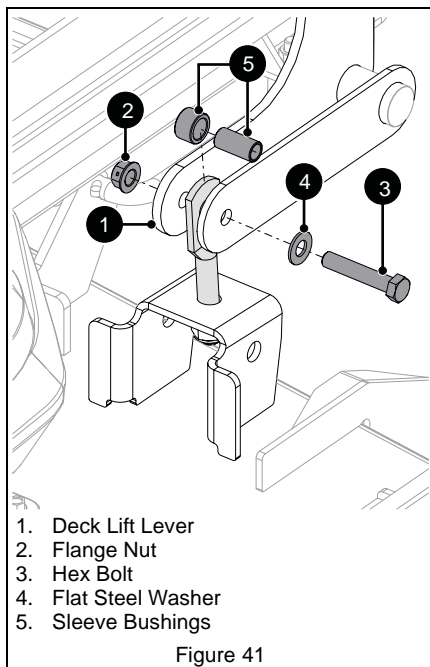

Figure 41
8. Remove one flange nut, one hex bolt, one flat steel washer and two sleeve bushings from deck lift lever. Retain hardware. See Figure 41.